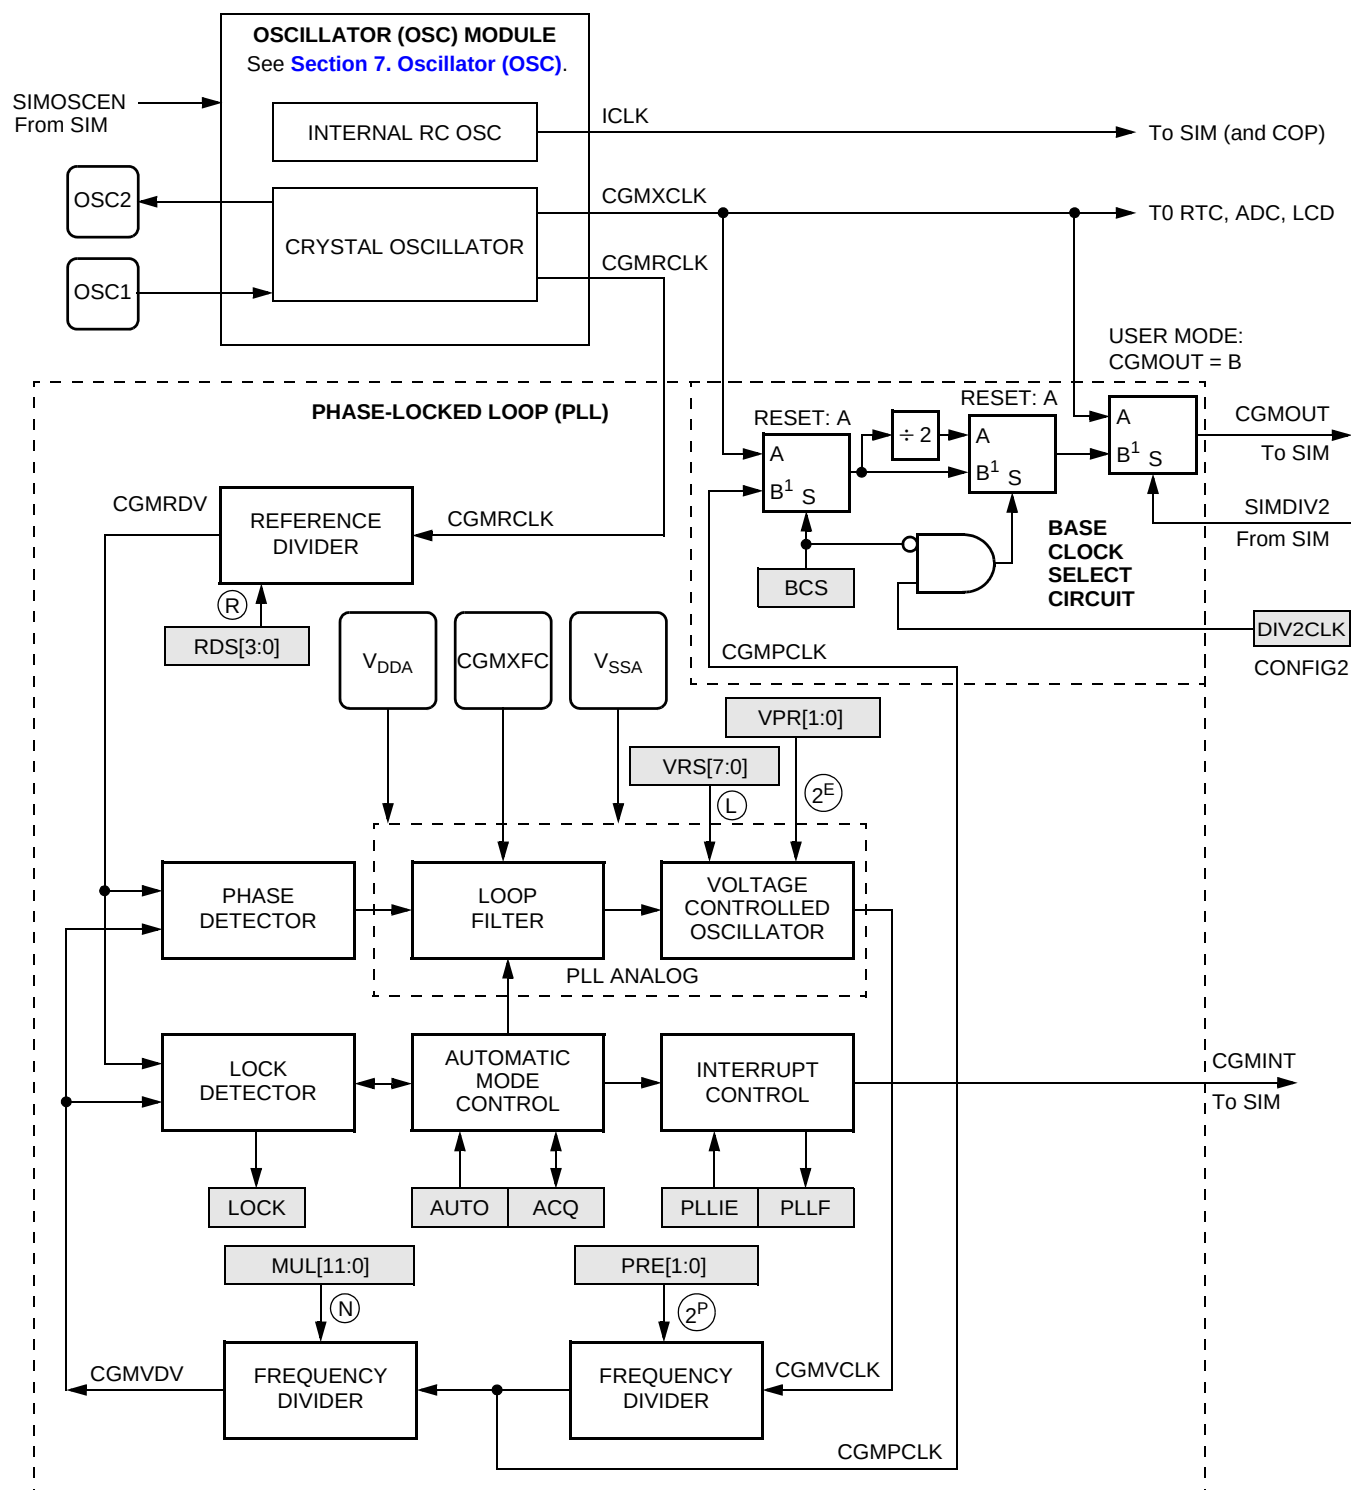

**Figure 8-1. CGM Block Diagram**
**Figure 8-1** shows the structure of the CGM.